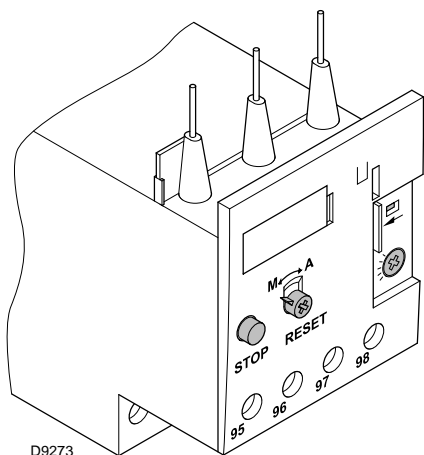

Fig. 24
The electro-mechanical thermal relay (Fig. 24) is used to avoid damage to the motor owing to a strong increase in absorption or the lack of a phase.
- To reset, in the case of an intervention of the thermal relay, press the button "RESET" (Fig. 24).
- The button "STOP" (Fig. 24) opens the NC (95-96) contact and stops the motor.